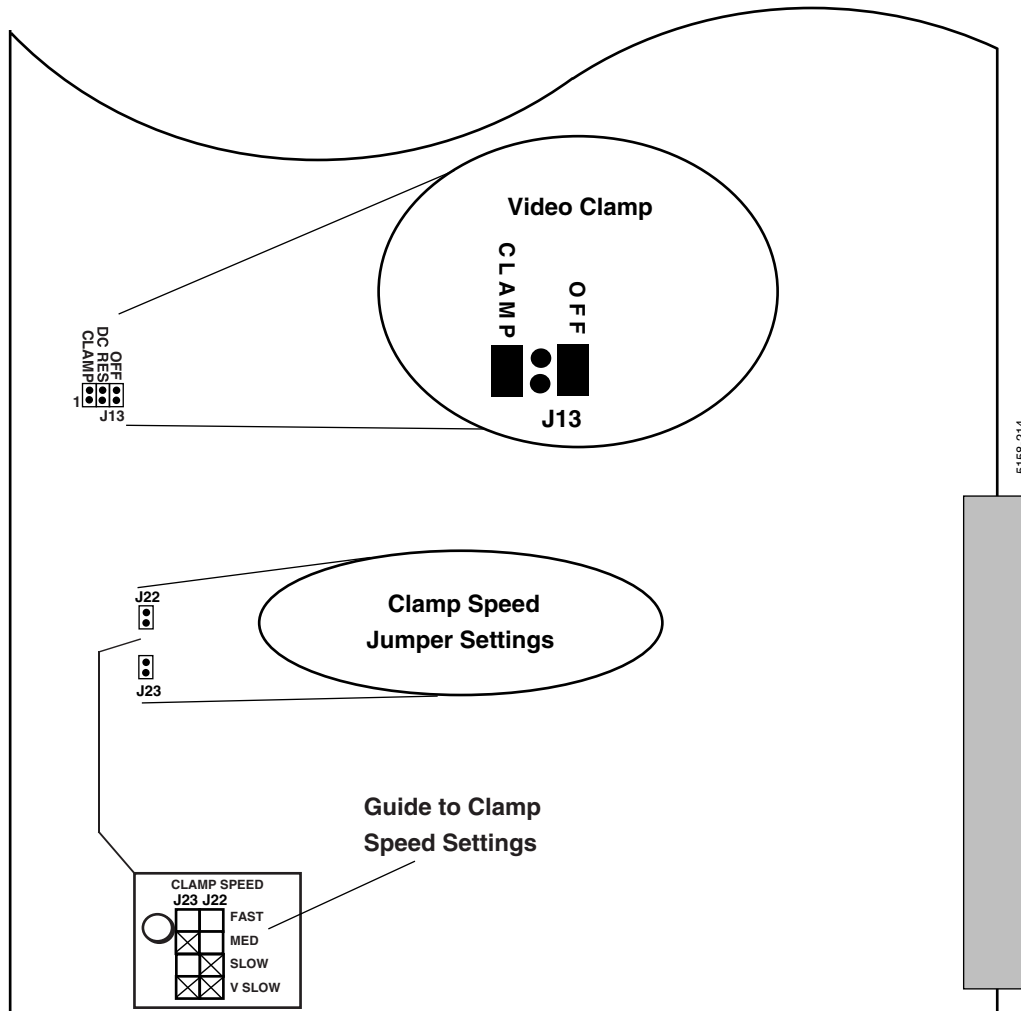

Figure 2-56. Video Input Clamp On/Off and Clamp Speed Jumpers
**Note** Check to see whether your system is equipped with #160096-01 or #160096-02 modules before making this jumper setting. If you have a -02 module, it has Video Clamp circuitry instead of DC Restore circuitry. Refer to Figure 2-56 on page 2-61 for details on making Video Clamp settings.
When the jumper is set to CLAMP, the MCF system's Video Clamp circuitry provides a sampled return of the video input signal to a fixed DC reference voltage. Figure 2-56 illustrates the location of jumper J13 on the Video Input module. To set fast, medium, slow, and very slow clamping speeds, adjust the jumpers on J22 and J23, as shown on the guide that is silk-screened onto the board. For See Figure 2-56.